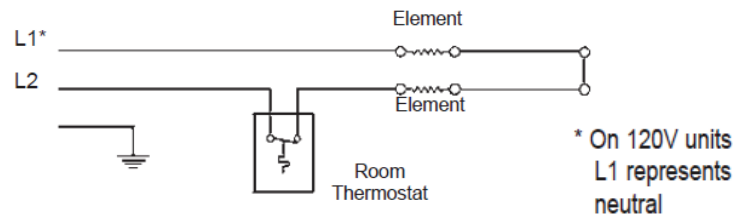

Figure 4: Wiring Diagram for remote mount and built-in room thermostats
- Heater has been supplied with an enclosure that has a standard 3/4" NPT threaded opening to accommodate the line conductors (see Figure 4 for connection details). Use wire connectors rated for minimum 194°F (90°C).
- check that all connections are secured and comply with the wiring diagram (see Figure 4) and applicable code requirements,